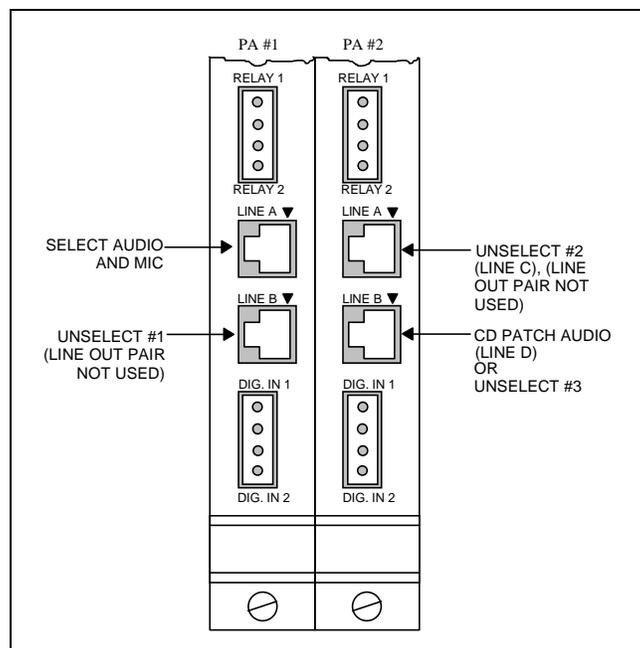

Figure 7 – Audio PA Boards' Modular Jacks
At the C3 Maestro, audio connections terminate at RJ-11 modular jacks on the Audio PA Board(s) in the Audio Tower. These jacks are labeled "LINE A" and "LINE B". Table 6 shows line requirements between the C3 Maestro and the CEC/IMC for each audio input or output 2-wire pair. Note that two (2) output pairs, Line B out on board #1 and Line A out on board #2, are never used. Table 5 gives the modular jack pin-outs and Figure 7 shows their locations. Interconnect the required pairs between the Audio PA Board(s) and the appropriate CEC/IMC Audio Concentrator Card or punch block. Shielded pairs are recommended.